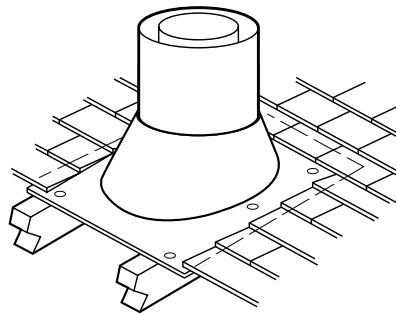

Figure 27
Step 6. Secure flashing by nailing along the perimeter into roof using 8d nails. If shingled roof, slide upper end and sides of roof flashing under shingles (trim if necessary), seal the top and both sides of the flashing to the roof with roof caulking. Cover nail heads with roof caulking (*Figure 27*).